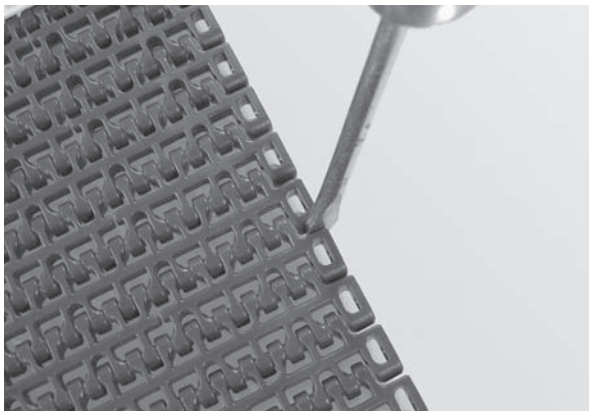

Figure 48
1. Place the edge of a flat head screwdriver between the two belt links and turn clockwise (**Figure 48**).